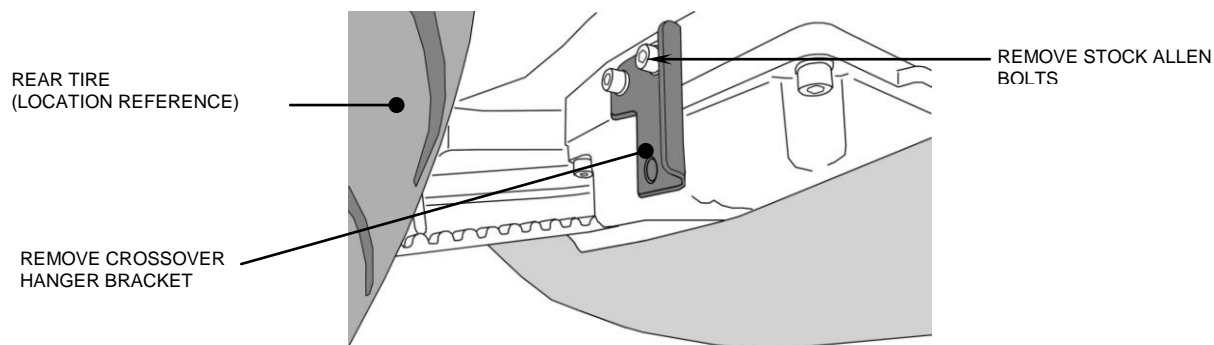

FIGURE 1
4. Remove the right side electrical cover to expose the (2) O₂ sensors connectors. Disconnect the connectors for the front and rear headpipes from the motorcycle wire harness. NOTE: The O₂ sensor with the black connector threads into rear headpipe bung, while the O₂ sensor with the light grey connector threads into front headpipe bung.
6. Remove the stock crossover headpipe hanger bracket by removing the (2) stock allen bolts located on the backside of the transmission pan underneath the motorcycle. See Figure 1.